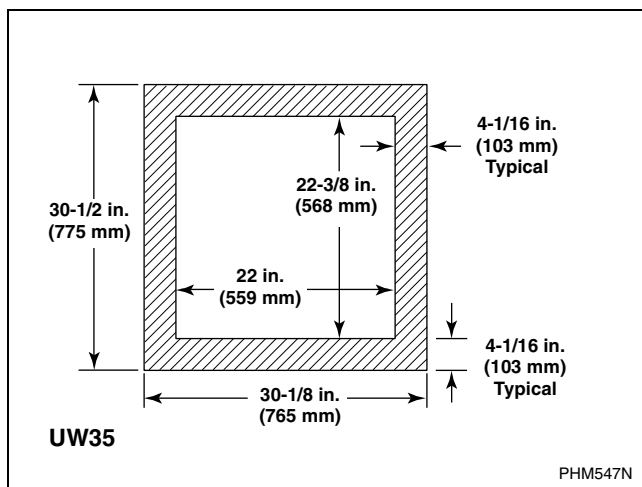

Figure 7
5. Fill the space between the washer-extractor base and the floor with a good quality non-shrinking machinery grout to ensure a stable installation. Grout completely under all frame members. (Remove front panel and rear panel to gain access to **all** frame members.) Refer to *Figures 7 and 8*. Force grout under machine base until all voids are filled.